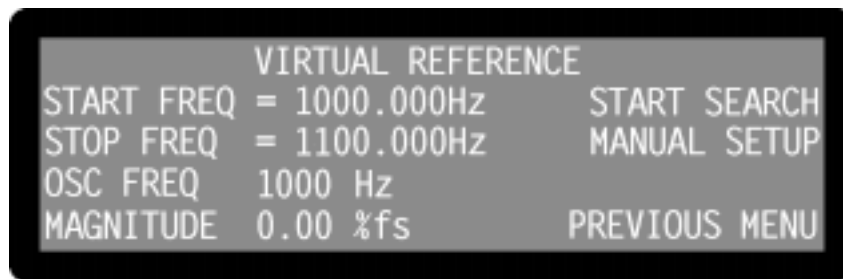

Figure 5-35, Virtual Reference (1) Menu
Next, go to the User Options 2 menu and press a key adjacent to the Virtual Reference item. The Virtual Reference (1) menu, shown in figure 5-35, will appear.